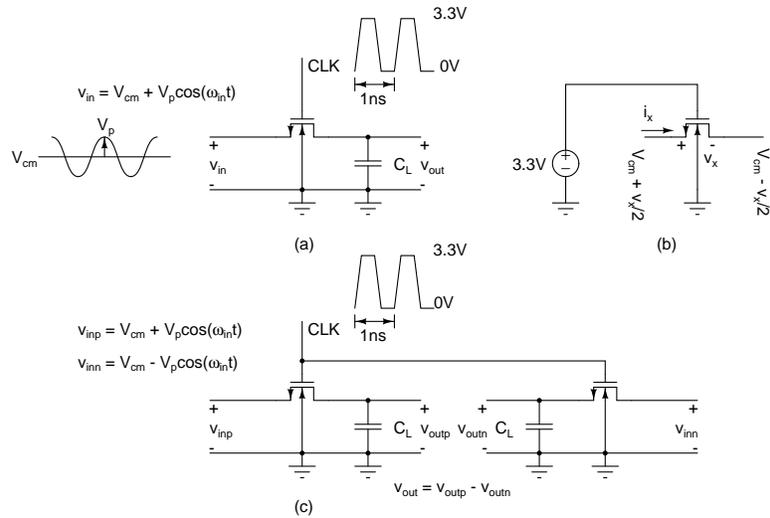

Figure 2:
3. Design the MOS track and hold circuit shown in Fig. 2(a). The load capacitor C_L is 2 pF. The clock is a 1 GHz clock that goes between 0 and 3.3 V. The input varies around a dc level of 0.5 V. Use 3.3 V devices (nch3, pch3) in the library “tsmc025”. Design the MOS switch such that when its terminals are at the input common mode voltage, its resistance results in a time constant that is 10% of the clock cycle. The circuit in Fig. 2(b) can be used to simulate the small signal resistance (with small v_x , of course). Give the size of the device. Simulate the following:
4. Repeat all the simulations above for Fig. 2(c). How does it compare with the single ended circuit?